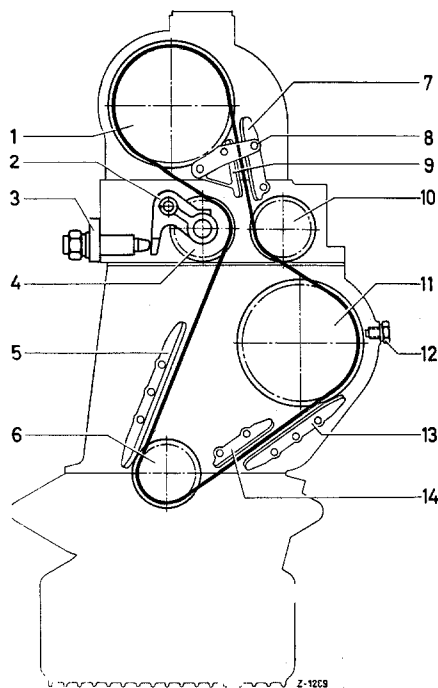

Figure 07-25/5
**Insert this hook between intermediate sprocket and chain, counterholding the guide rail when knocking the pivot pin into the cylinder crankcase** (see Figure 07-25/5).
20. Screw in the locking screw (12) for the chain drive and tighten (see Figure 07-25/5).
Use a fork wrench to turn the hex. nut (6) in direction of rotation (see Figure 07-25/4). If after releasing, the intermediate sprocket shaft returns to its original position, the springs of the injection timing device are in order. In the negative, replace the injection timing device or check whether the centrifugal weights return to the original position by trying to press the centrifugal weights to the centre with your finger. To do this, the injection timing device should be dismantled again.
21. Place the washer (4), the lock washer (5) on the intermediate sprocket shaft, screw on the hex. nut (6) and tighten with a torque of 7 mkg. (see Figure 07-25/4). Check the axial clearance of the intermediate sprocket shaft (10) (0.05 to 0.12 mm).
23. Screw the cover (18) incl. gasket (21) with the cylinder head bolts (20) to the cylinder crankcase. To do this, check the gasket, replace, if necessary.